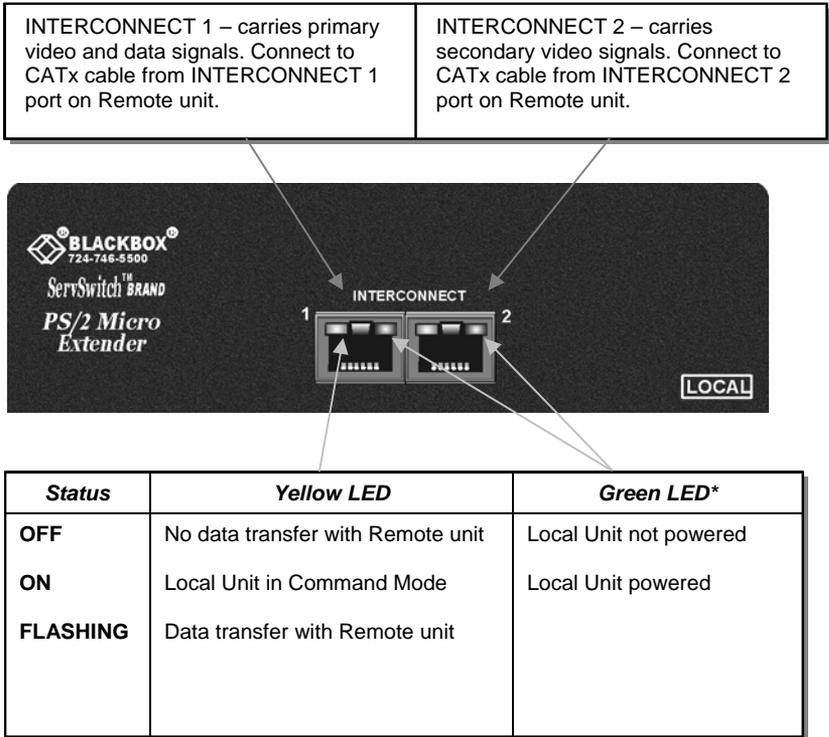

Figure 5 **Local Unit – front view**
6. Connect the CATx cables from the Remote unit to the corresponding INTERCONNECT ports (1&2) on the Local unit (see Figure 5).
- Illuminates the yellow Interconnect 1 LED continuously (see Figure 5).